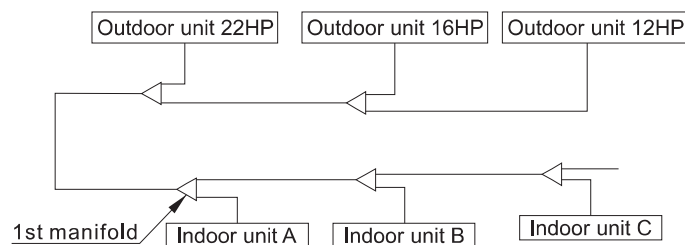

Fig. 3.8 Sequence of outdoor unit
- 1) When installation, a maintenance space as shown in Fig.3.8 shall be left, the power supply device shall be installed at the side of the outdoor unit as per the method shown in the installation manual for the power supply unit.